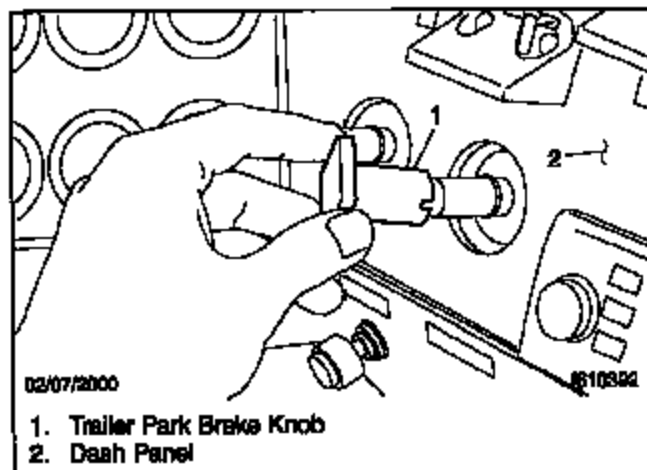

Fig. 2, Remove the Valve Knobs
4. If necessary, remove the park brake and trailer brake valve knobs. The knobs may be secured with roll pins. See Fig. 2.